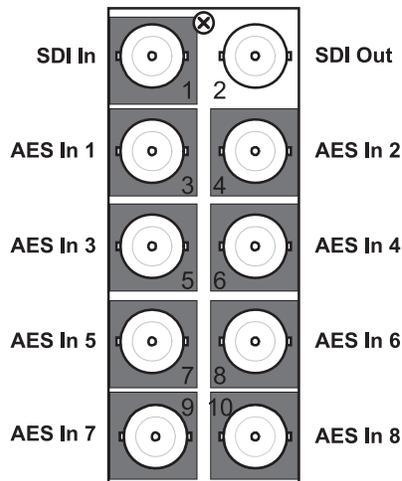

Figure 5 Cable Connections for the MUX-8258-A
- **DFR-8310 series frame** — The **8310AR-030** Rear Module is required. The MUX-8258-A is also compatible with the DFR-8310-BNC frame (with the cooling fan option installed). This rear module provides one SDI input, one SDI output and eight unbalanced AES inputs. (**Figure 5**)
- **DFR-8320, OG3-FR, and OGX-FR series frames** — The **8320AR-041** Full Rear Module is required. Each card occupies two slots and accommodates one card. This rear module provides one SDI input, one SDI output, and eight unbalanced AES inputs. (**Figure 5**)